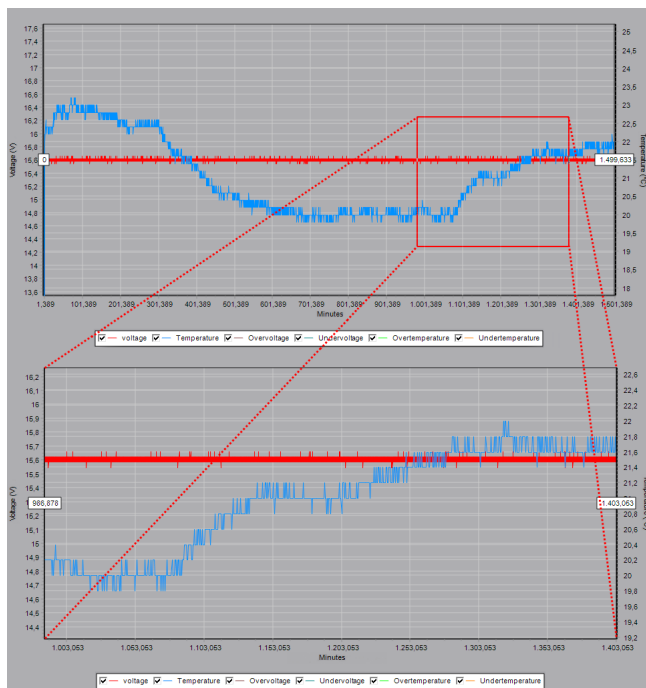

Figure 19: Zooming in
Step 7a. Navigate through the graph to find details. Also see item 2: Graph navigation from the Operation section.
Step 7b. In addition to the 'Graph navigation panel', you can also use your mouse to navigate through the graph. You can zoom into the selected area by dragging from the left at the top to the right at the bottom over the area to be inspected while keeping the left mouse button pressed. You can zoom out by dragging from the right at the bottom to the left at the top while keeping the left mouse button pressed or by pressing the 'Zoom out' button. Figure 19 displays an example of zooming in.